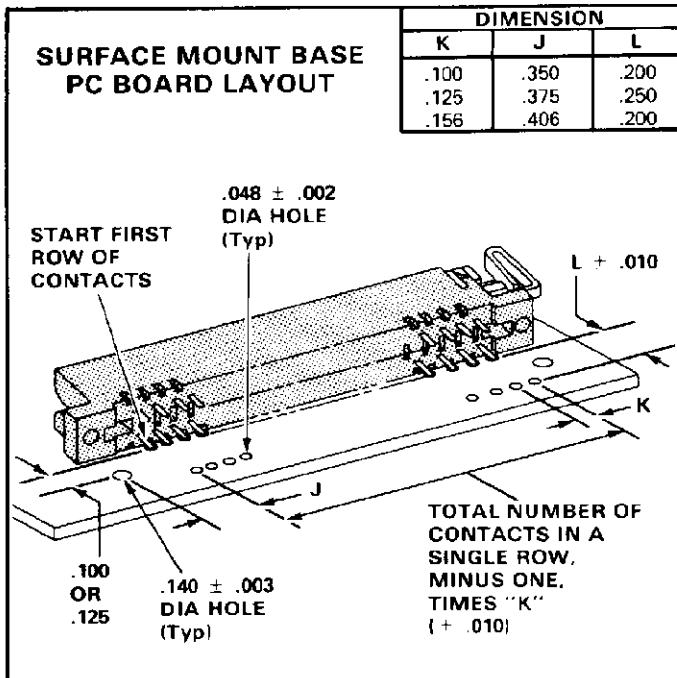

Fig. 4
A. Surface Mounting (Solder Tine and Posted Contacts - Figure 4)
- Using the dimensions provided in Figure 4, make a layout on the base pc board.